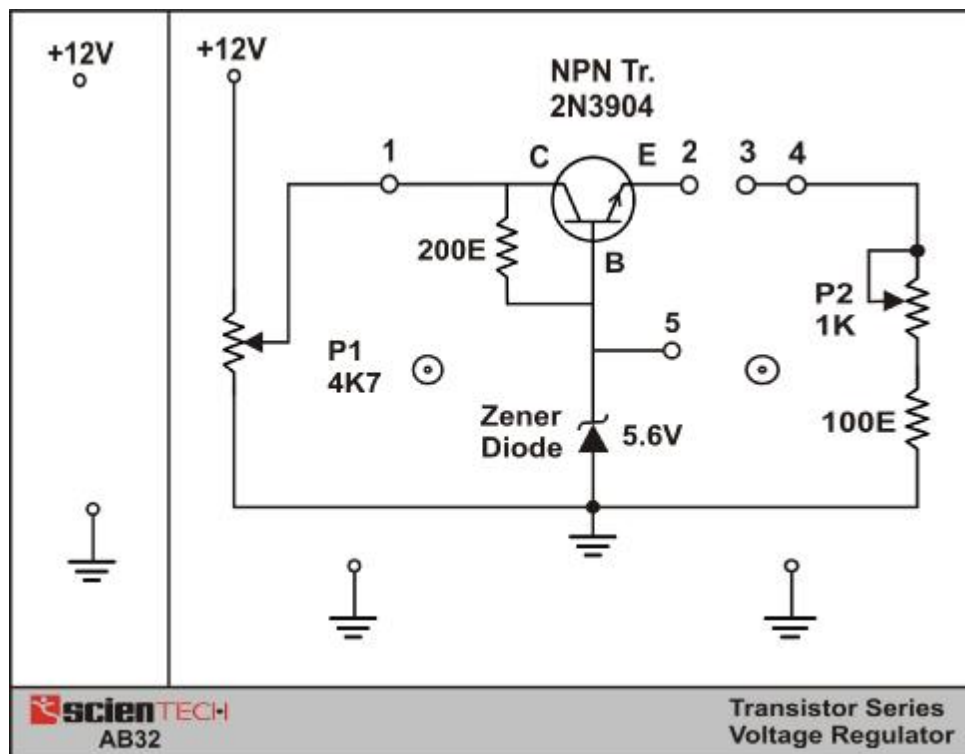

Figure 5
Circuit used to study Transistor Series Voltage Regulator is shown in figure 5.
1. The result of Experiment 2 reveal that for the network of figure 5 with a fixed Load resistance, the output voltage will remain close to 4.9V for a range of input voltage V_{in} that extends from _____ to _____ .